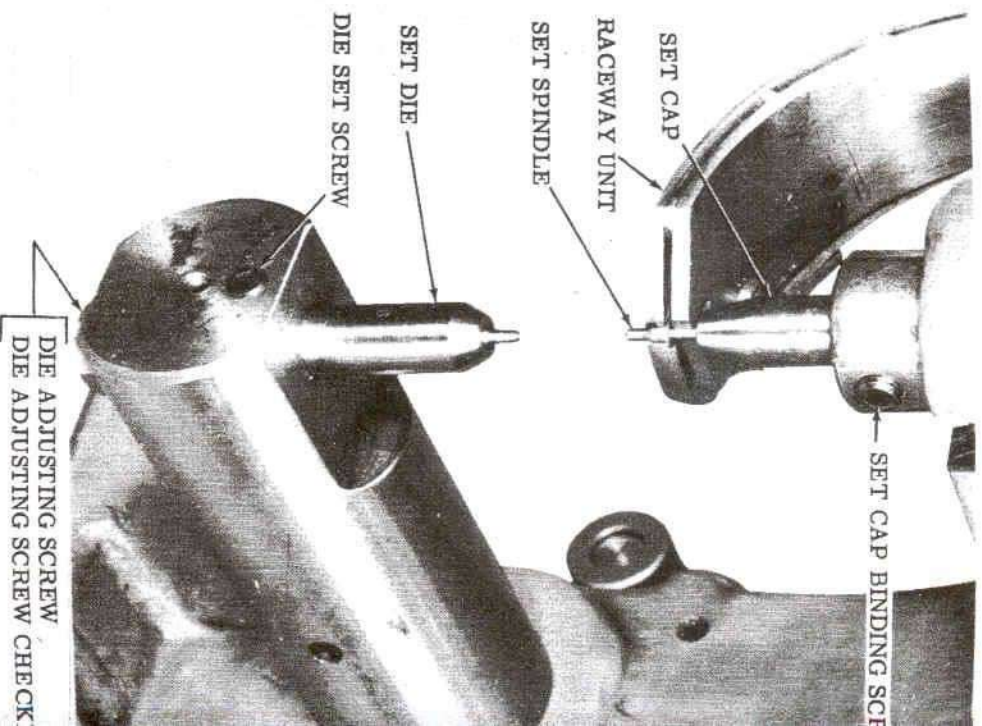

Figure 5 - Set Spindle Picking Off Eyelet From Raceway
2. Setting Pressure (See Figure 5)
(1) Loosen the die set screw SL-14S10, and the die adjusting screw checknut NL-22U2. Turn the die adjusting screw SL-18S24 to change the height of the die.
(2) Make as many trials as necessary, tightening the checknut and set screw after you have made the correct adjustment.
3. Alignment of Raceway (See Figure 5)
4. Timing of Raceway (See Figure 5)
A. To Change Setting Tools (See Figures 5 and 9)